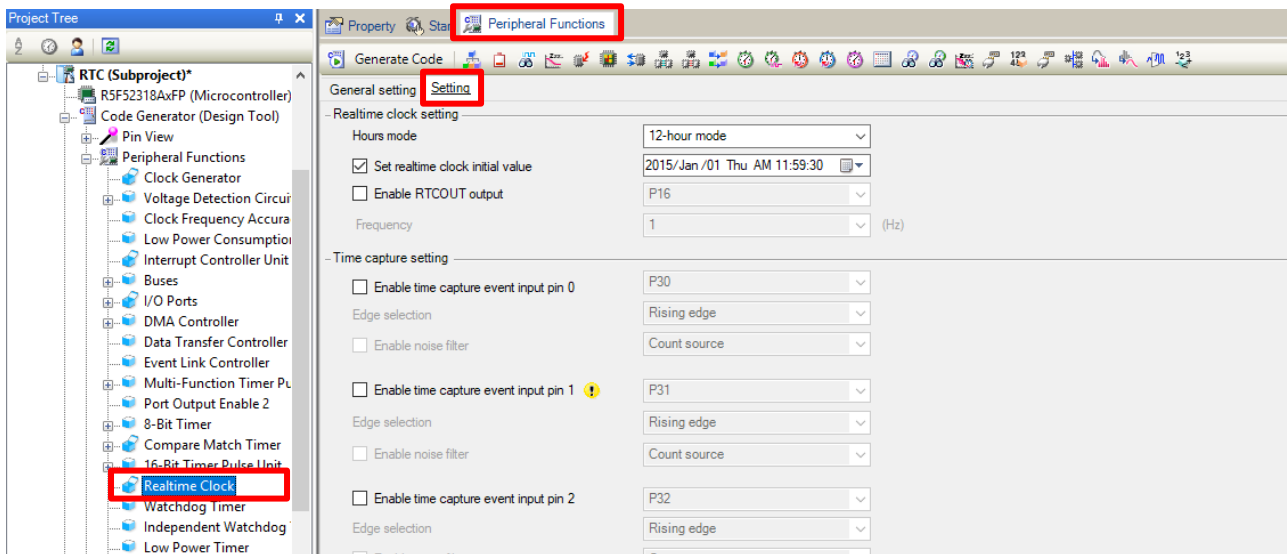

Figure 2: Realtime Clock Setting Window
- (1) In [Code Generator (Design Tool)], open [Realtime Clock] (Figure 2). Then, select the [Setting] tab from [Peripheral Functions].